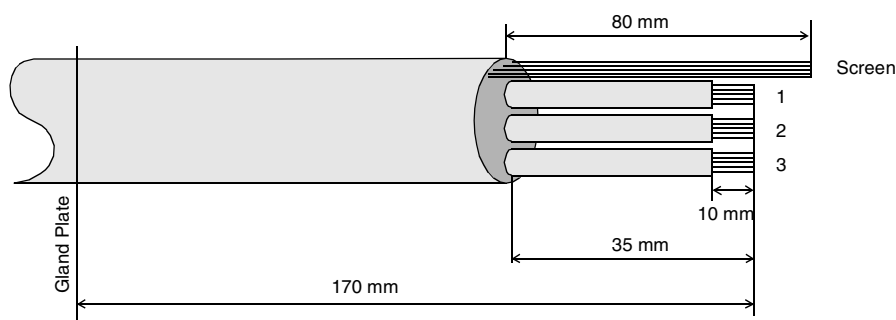

Figure 4-5 Resistor cable stripping diagram (braking chopper end). All lengths are approximate.
- Cut and strip the cable as shown in Figure 4-5 above.